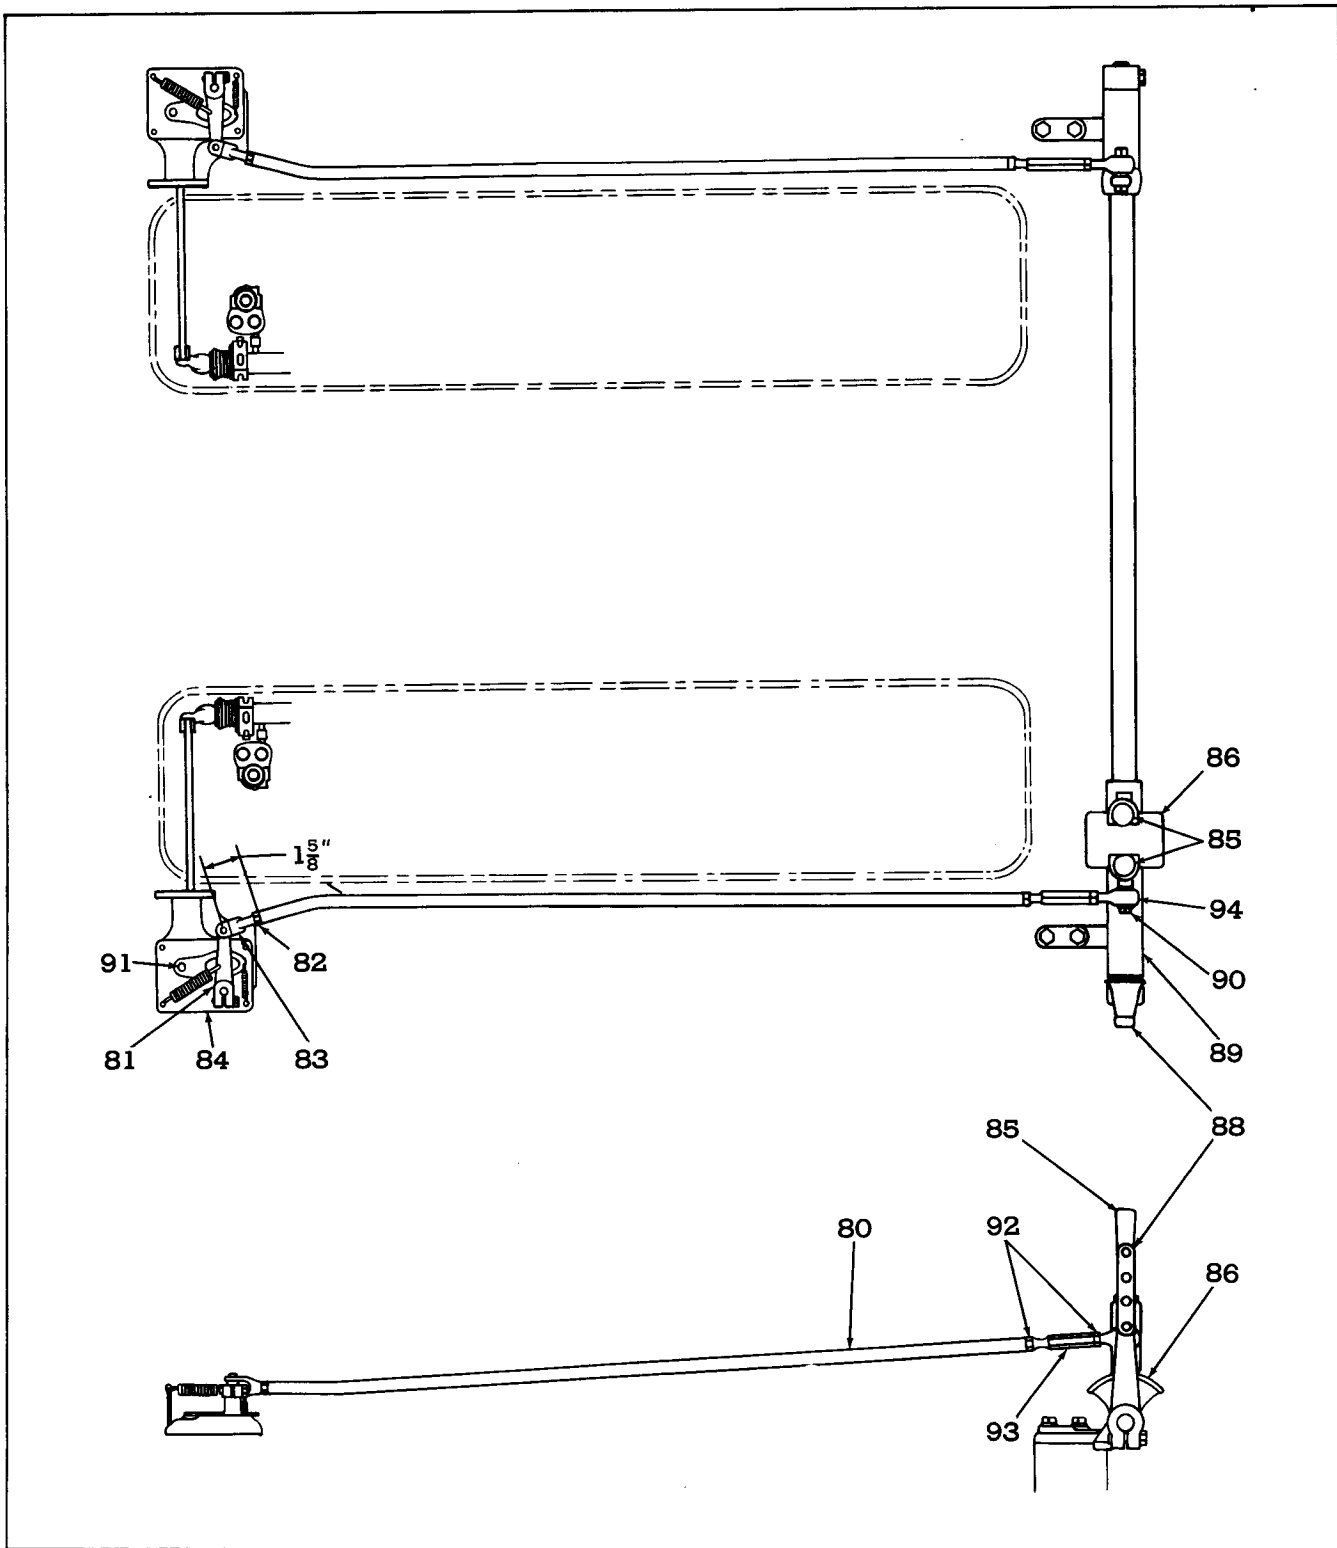

Fig. 18—Diagram of Throttle Control Linkage for Twin Units with Limiting Speed Mechanical Governors.
Disconnect governor control tube assemblies (80) from control levers (81), Figs. 18 and 19, and perform the following adjustments.
clevis pin hole, to the front end of the control tube (80), (not the locknut). This distance must be $1\frac{5}{8}$ ", as shown in Figs. 18 and 19.